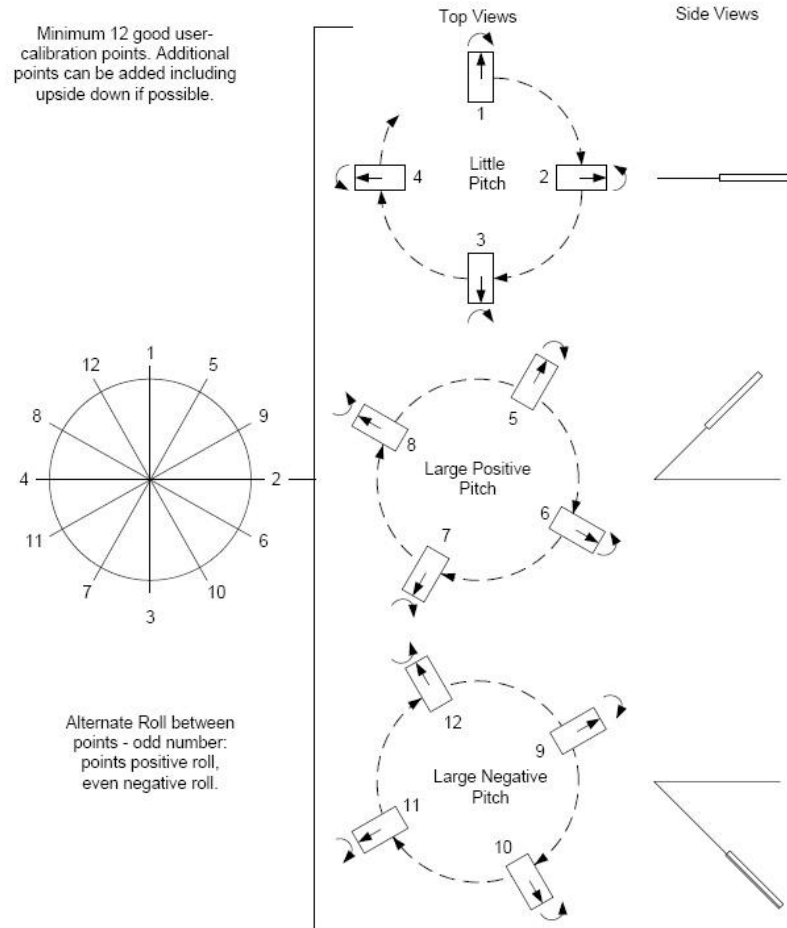

Figure 5-1: 12 Point Full-Range Calibration
A Full-Range Calibration is appropriate when the TRAX can be tilted  $\pm 45^\circ$  or more. This method compensates for hard and soft-iron effects in three dimensions, and allows for the highest accuracy readings. The recommended 12 point calibration pattern is a series of 3 circles of evenly spaced points, as illustrated in Figure 5-1 and listed in Table 5-2. The pitch used in the second and third circles of the calibration should at least match the maximum and minimum pitch the device is expected to encounter in use.
**Note:** While Figure 5-1 shows the location of the device changing, this is for illustration purposes and it is best for the location of the device to remain constant while only the orientation is changed.